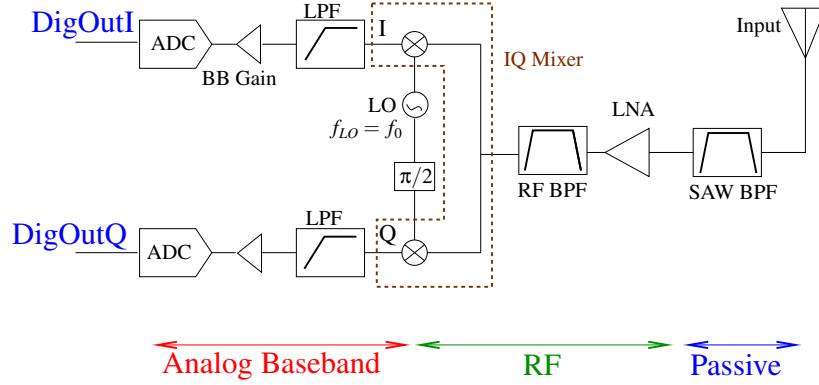

FIGURE 4 – RX block diagram
The diagram of the considered receiver is shown in Fig. 4. It is also an Inphase/Quadrature (IQ) Homodyne architecture. The signal is first filtered by an RF passive filter that will filter